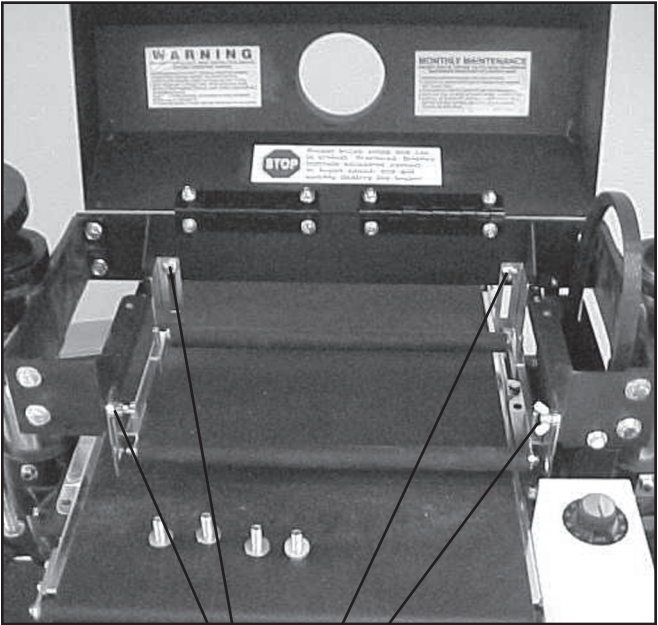

Fig. 23 Tension Roller Adj. Bolts
5. Remove V-belt from drive pulley. If there is not enough clearance to remove V-belt loosen the four bolts securing the main motor to bracket. Note location of motor before sliding motor out of the way for ease of reassembly. Note the routing of the old V-belt: now remove the old V-belt and replace it with the new V-belt (Fig. 23 and 24).